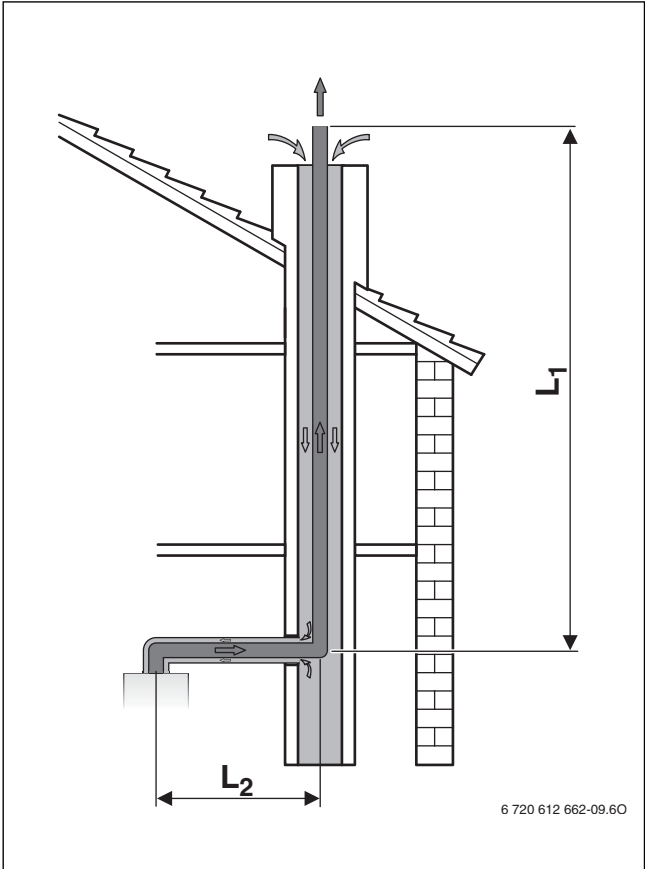

Fig. 23 Routing the flue through a duct as per C₉₃
- Combustion air supply through the duct as a countercurrent (C₉₃, to Fig. 23 and 24):
- If the combustion air supply is routed in countercurrent through the duct (→ Fig. 23 and 24), the duct must be cleaned.